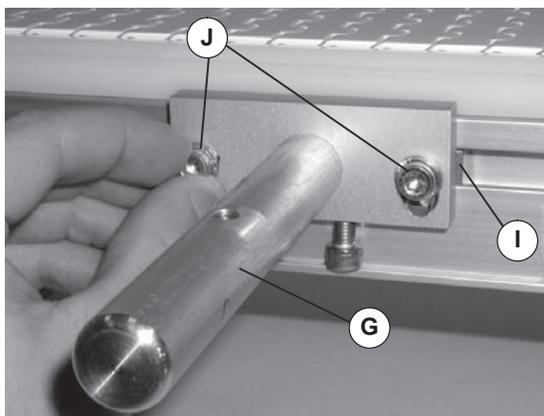

Figure 6
4. Attach support bar assembly (Figure 6, item G) to conveyor using T-bar (I) with screws (J), hand tighten.